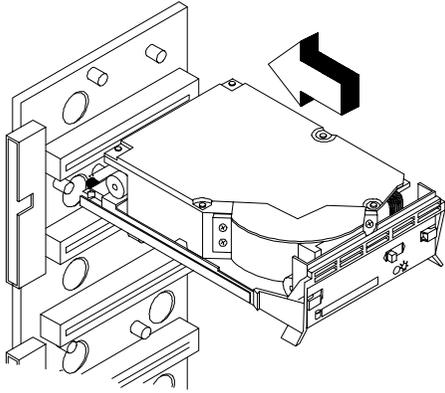

Figure B-11 Installing the Hot-plug Drive Tray
4. Install the drive tray into the backplane board. See Figure B-11 on the following page. Be sure the tray is fully seated into the backplane connector.